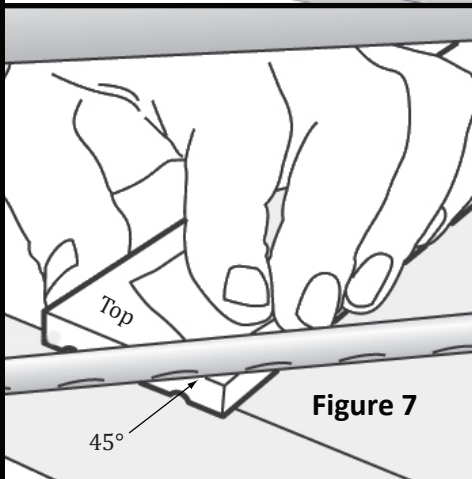

Figure 7
Step 8: Cut a 45° angle through the molding where it meets the top, horizontal piece (Fig 7). This will allow the flap on the horizontal seal to lay down flush with your door.